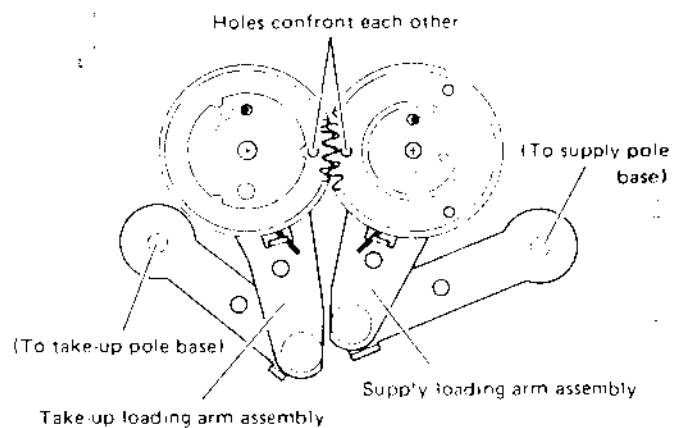

Fig. 1-3-2 Loading arm assembly (2)
2. Install the take-up loading arm assembly and the supply loading arm assembly so that the holes on the loading gears face each other, as shown in Fig. 1-3-2. Do not move the loading arm assemblies from this position for the next step.